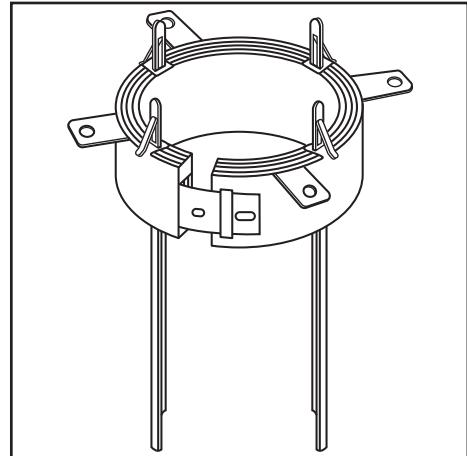

Figure 1: Assemble PPD & Ultra Fast Anchor.
- Assemble PPD and Ultra Fast Anchor Strap (Figure 1).